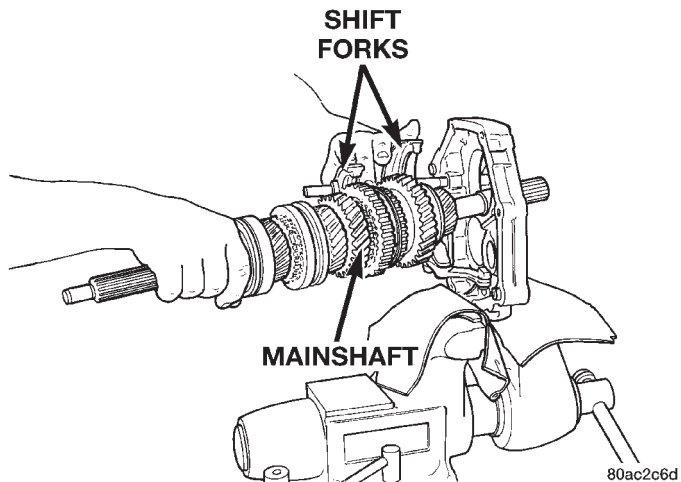

Fig. 63 Remove Mainshaft
(17) Remove the mainshaft by moving the mainshaft forward until the mainshaft rear bearing is clear of the intermediate plate and then rotating the mainshaft downward out of the shift forks (Fig. 63).